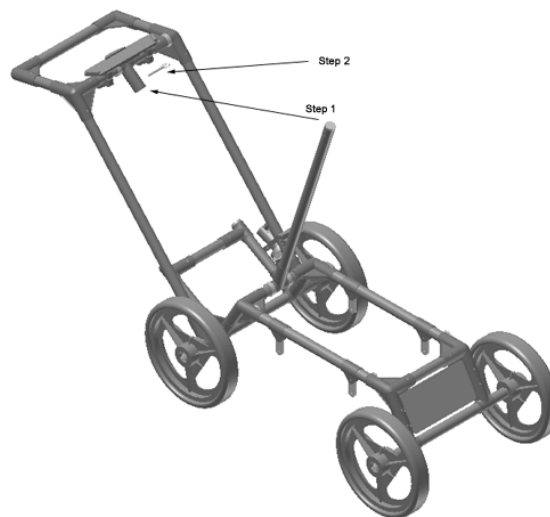

Figure: 2-4 SmartCart set up.
- 2) **Unfold the Handle:** Refer to Figure 2-4. Pull the ring to remove the handle Clevis pin from the handle support arm. Raise the handle support arm and then the handle and place the open end of the T-shaped tube on the handle onto the end of the support arm (Step 1). Then lock the handle into position by lining up the hole in the support arm with the hole in the T-shaped tube and inserting the handle Clevis pin (Step 2). (When folding the SmartCart back up always ensure the handle folds down before the handle support arm.)